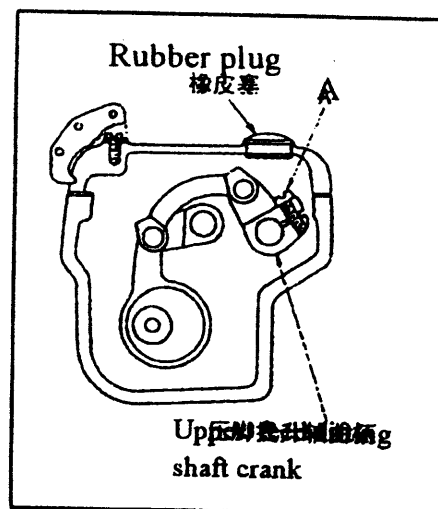

Fig.11
2) To change the balance of the alternating movements between the walking foot and presser foot (Fig.11):